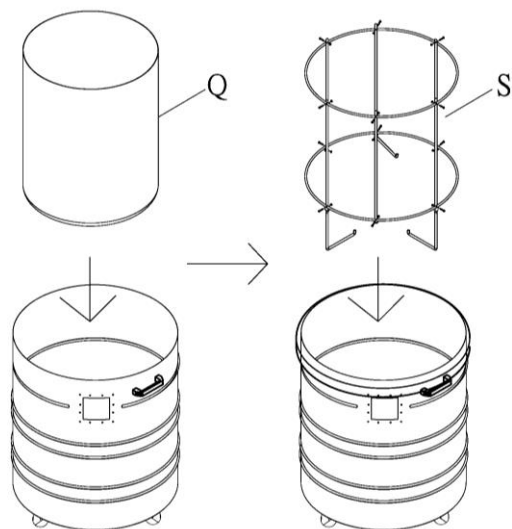

Figure 14
19. Place drum collection bag (Q) into drum with its top edge wrapped around top edge of drum. Place bag frame (S) inside bag and press down all the way. See Figure 14.